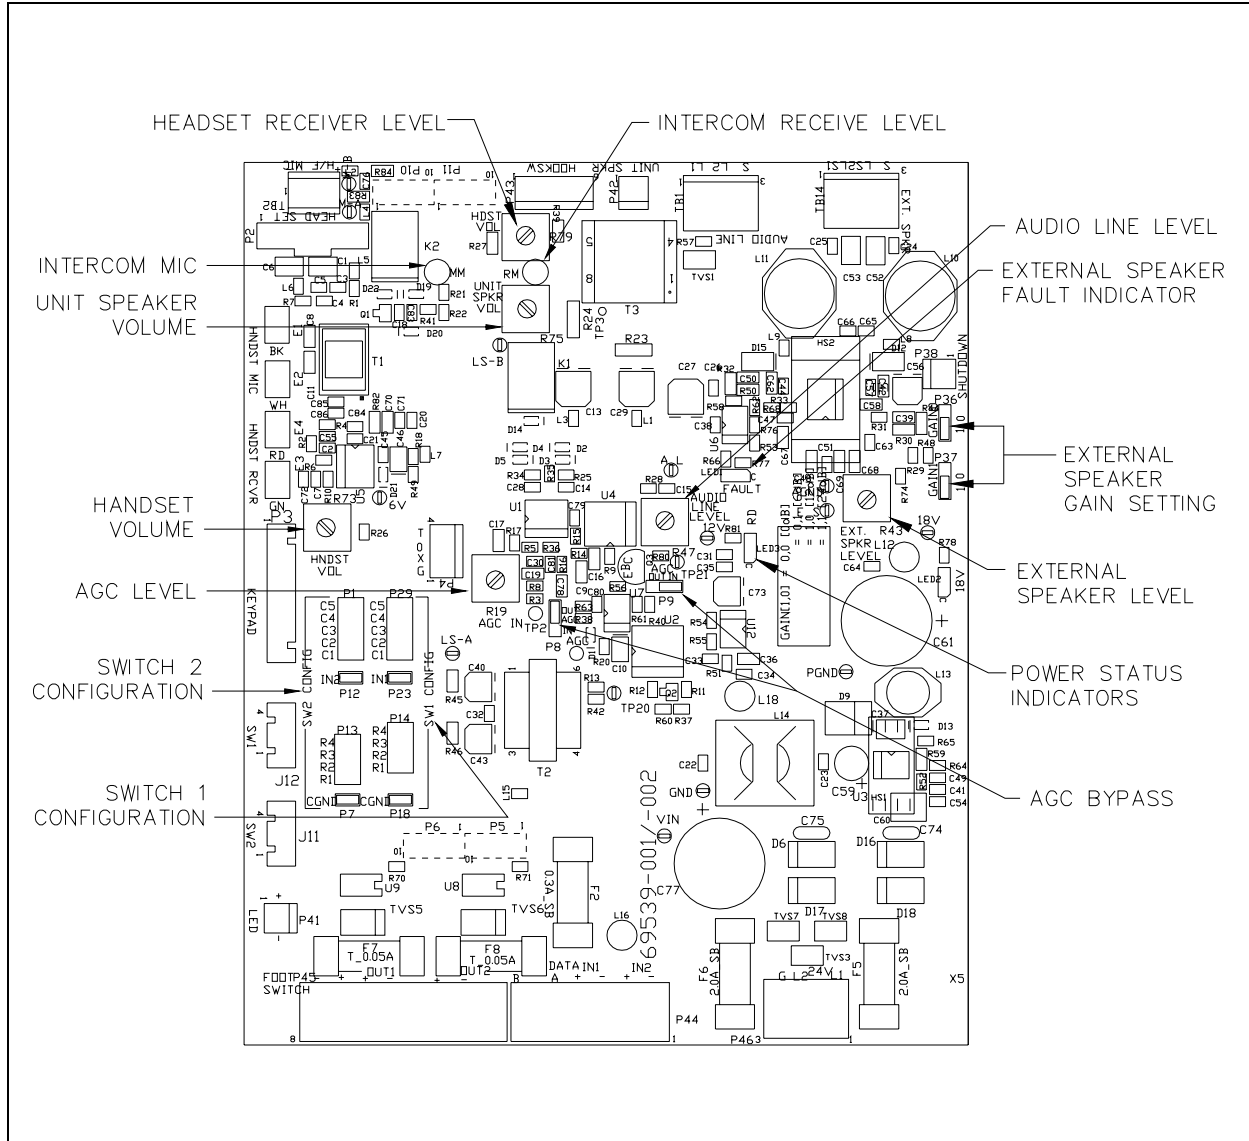

Figure 12. Setting Locations
**NOTE:** The following adjustments should only be performed after the Intercom Level Setting RM has been set (factory setting) and the Master Volume Adjustment (keypad control) has been set to mid-range. Refer to Figure 12 for locations.